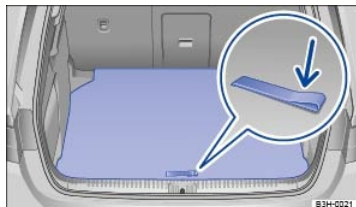

Fig. 149 In the luggage compartment: Opening the luggage compartment floor.
- To *open*, pull the handle or loop up ⇒ Fig. 149 (arrow). Guide the floor upward until it is held in position by the stops on either side of the luggage compartment.
- To *reinstall*, guide the luggage compartment floor downward into position with the handle or loop facing up ⇒ Fig. 149 (arrow) ⇒ ⓘ.